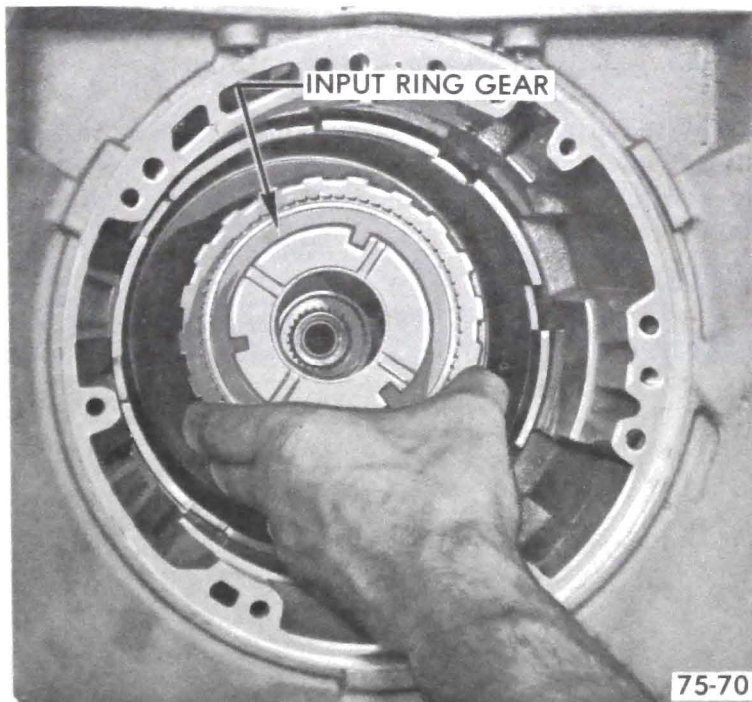

Figure 75-99
2. Remove input ring gear. See Figure 75-99.